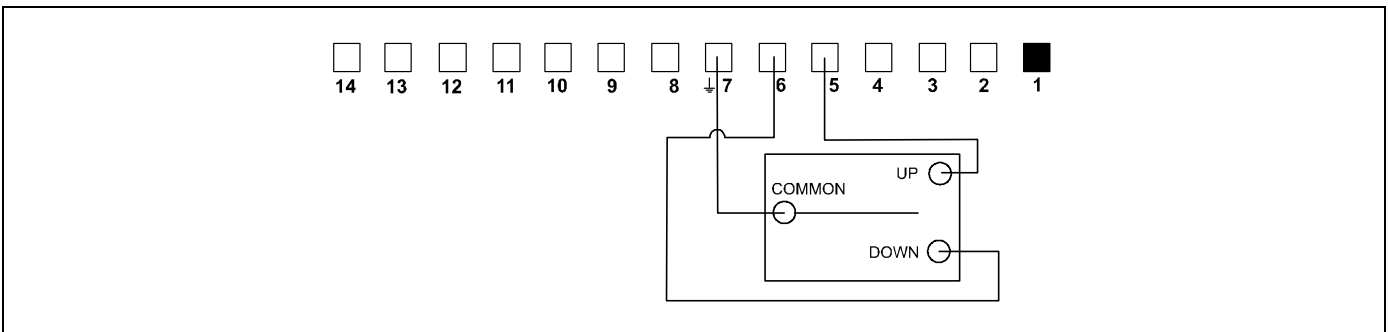

Figure 31
NOTE: If operation of the mount is required at a greater distance than remote control will allow, the mount can be controlled through a hardwired switch or similar device. See **Dry Contact Closures** and (See figure 31) .
1. Connect the common wire from your switch to terminal 7. (See figure 31)